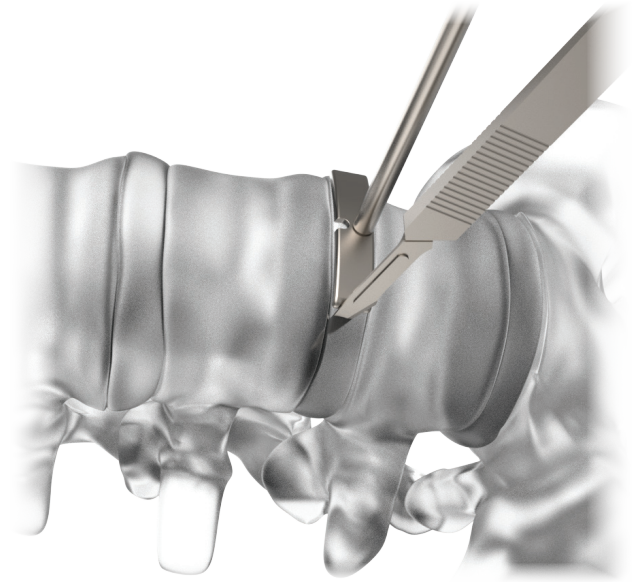

Figure 3
- Use an annulotomy knife to make incisions in the annulus along the lateral edges of the annulotomy template. (Figure 3).